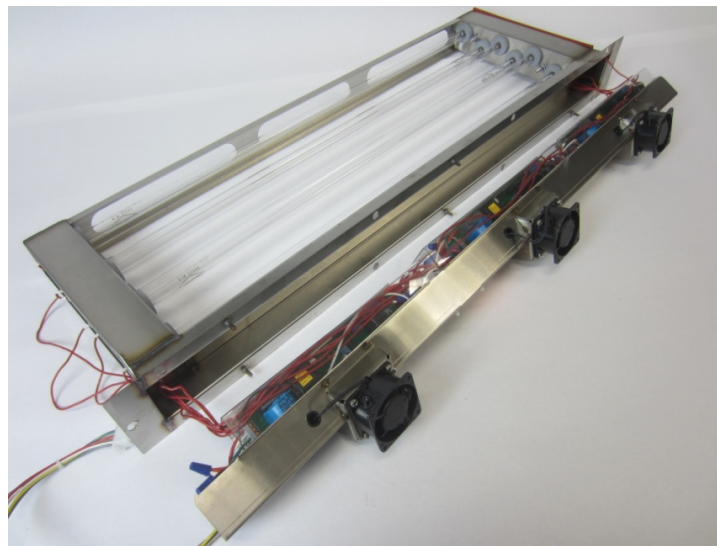

Figure 6-34-2
7. Next the Ballast Raceway must be removed. Using a wrench, remove the five nuts that hold the raceway to the face of the Module (Refer to Figure 6-34-1). Gently pull the Ballast Raceway off the Module as shown in Figure 6-34-2.